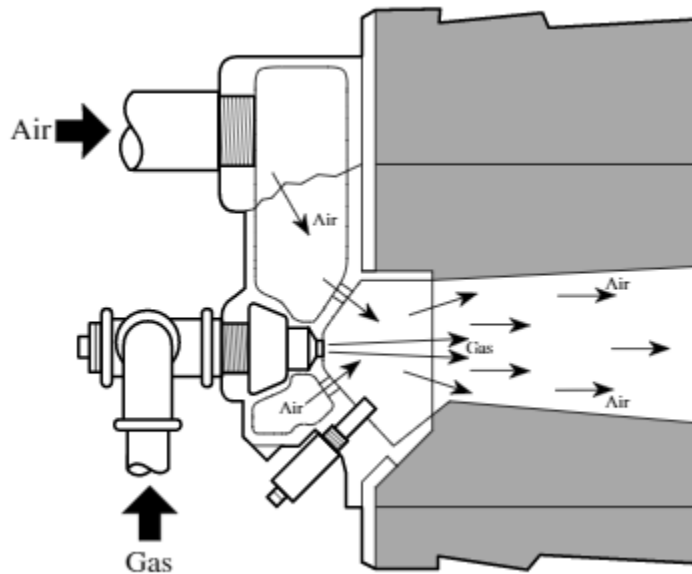

Figure 35. Nozzle mix burner
Nozzle mix burners mix the gas and air together as they enter the burner nozzle. Both the air and gas are injected into the burner at a positive pressure (Figure 35). On a variable input appliance (modulating) the air pressure or flow can be modulated but the gas pressure or flow must also be automatically adjusted to remain in direct proportion to the air.
- Figure 35. “Nozzle mix burner” – The source for this image is unknown. It is being used for non-commercial, educational purposes. To receive credit for this image, please reach out to the publisher.